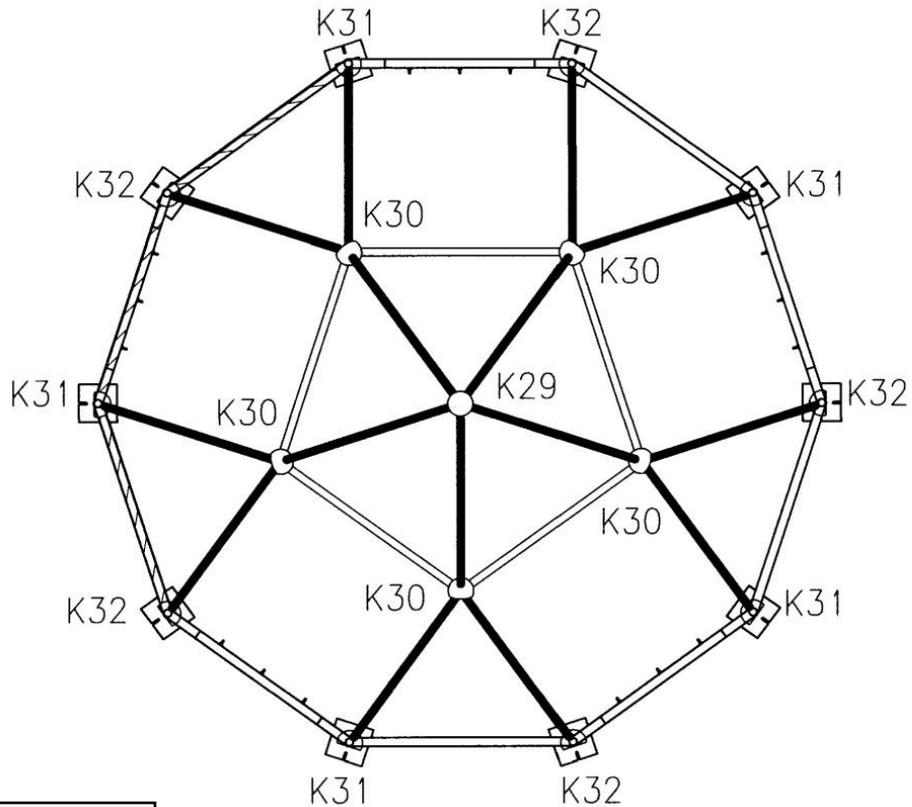
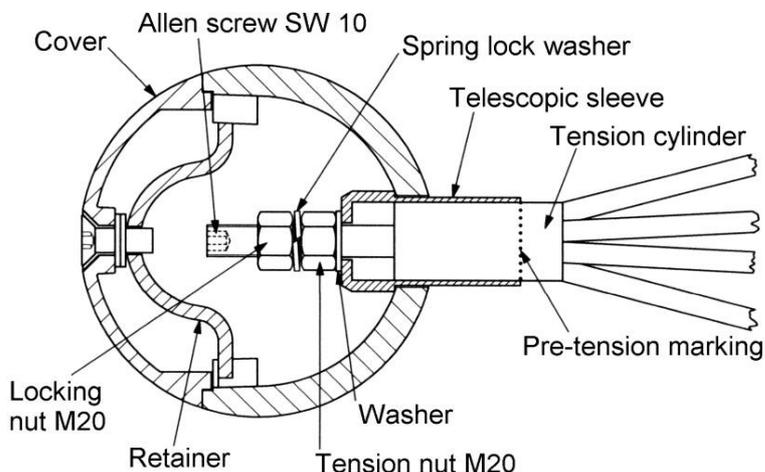
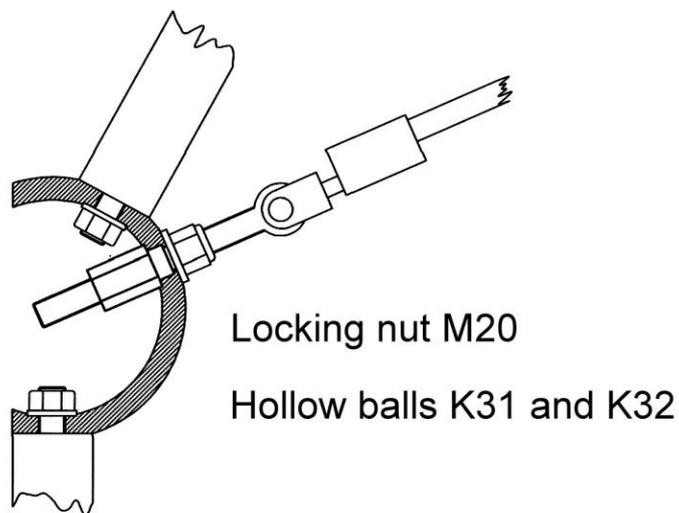

Figure 9
Figure 16
Figure 17
Two double ladders (2.5 m and 4 m long) are required for easy assembly. The structural arrangement of the lattice-work tubes and hollow balls can be seen in **Figures 9 and 10**. The identification number (**K29 to K32**) on the hollow ball must always point to the top of the equipment when being positioned.
Preassembly of the space net begins by screwing the tension systems into the hollow balls of **K30** (Figures 9, 10 and 16). In doing this, the tensioning cylinder is inserted into the telescopic sleeve with the M20 bolt and mounted from the inside with the tension nut M20 (Size 32) with approximately 5 turns of the thread. After this, the tension screws for hollow balls **K31** and **K32** (Figures 9 and 10) are made which also mount the tension rope via the fork screws (Figure 17).
Firstly the aligned connection on the hollow ball **K29** is to be solidly secured. Tensioning of the space net begins on the hollow balls of **K31** and **K32** which are screwed to the locking nut (Figure 17) using the special spanner supplied. After doing this tensioning is made on **K30** hollow balls up to the marking (Figure 16). Finally, the space net must be under a tension having an even strength throughout.
After tensioning, the tension nuts are to be locked on all **K30 knot points** using the locked nuts and spring lock washer provided (M20 Size 32). **In order to tighten the locking nut, the Allen key Size 10 must be inserted into the M20 screw and held (Figure 16).** The locking nuts Size 30 (**Figure 17**) are to be inspected once again to ensure that they are solidly secure at the **K31 and K32 knot points**. Finally all knot points from **K29 to K32** are to be closed by screwing the knots with the prepared covers via a clamping screw (**Figure 16**). In doing this please ensure that the cover is positioned evenly so that our company logo is readable. Thank you.
The first re-tensioning must be carried out after one to two weeks. Re-tensioning is made via the tension nuts (M 20) in the hollow balls. Firstly the **balls K31 and K32** are re-tensioned. After removing the cover using an Allen key Size 10 and loosening the locking nut M20 Size 30 (Figure 17) on the outside of the ball, the inside tension nut Size 30 is re-tensioned with the box spanner. It is imperative that the **locking nuts** be solidly tightened **after re-tensioning**. After this, further retensioning is made at the **K30 knots** and should be carried out evenly. In doing this the inside locking nut M20 Size 32 is loosened after removing the cover and re-tensioned at the tension nut M20 Size 32 **beyond the pre-tension marking** using the special box spanner supplied. After re-tensioning, the tension nuts on the K30 knots must be **locked again** with the locking nuts. **Please note to the spring lock washer between the nuts. In order to loosen and secure the tension nut and locking nut M20 Size 32, the bolt M20 can be held with an Allan key Size 10 (Figure 16).** Finally the open hollow ball is once again closed with the cover. Please ensure that the cover is placed evenly so that our company logo is readable. Thank you.
- Check the locking nuts (**Figure 17**) to ensure solid seating at the **K31 and K32** hollow balls.